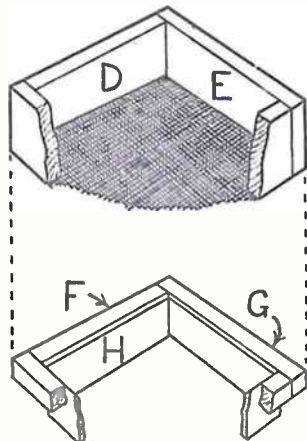

Fig. 3
Fig. 3 makes the sieve detail clear. The upper part is of 1/2 in. wood. Two each of (D) and (E) are needed, (D) being 4 ins. by 2 ins., and (E) 5 ins. by 2 ins. A 5 in. square of fine brass or copper gauze is held in place under this by the lower section by means of screws. Two (F) and (G) components are cut from 1/2 in. square stripwood, 4 ins. and 5 ins. long respectively, and are fitted together with balsa cement and fret